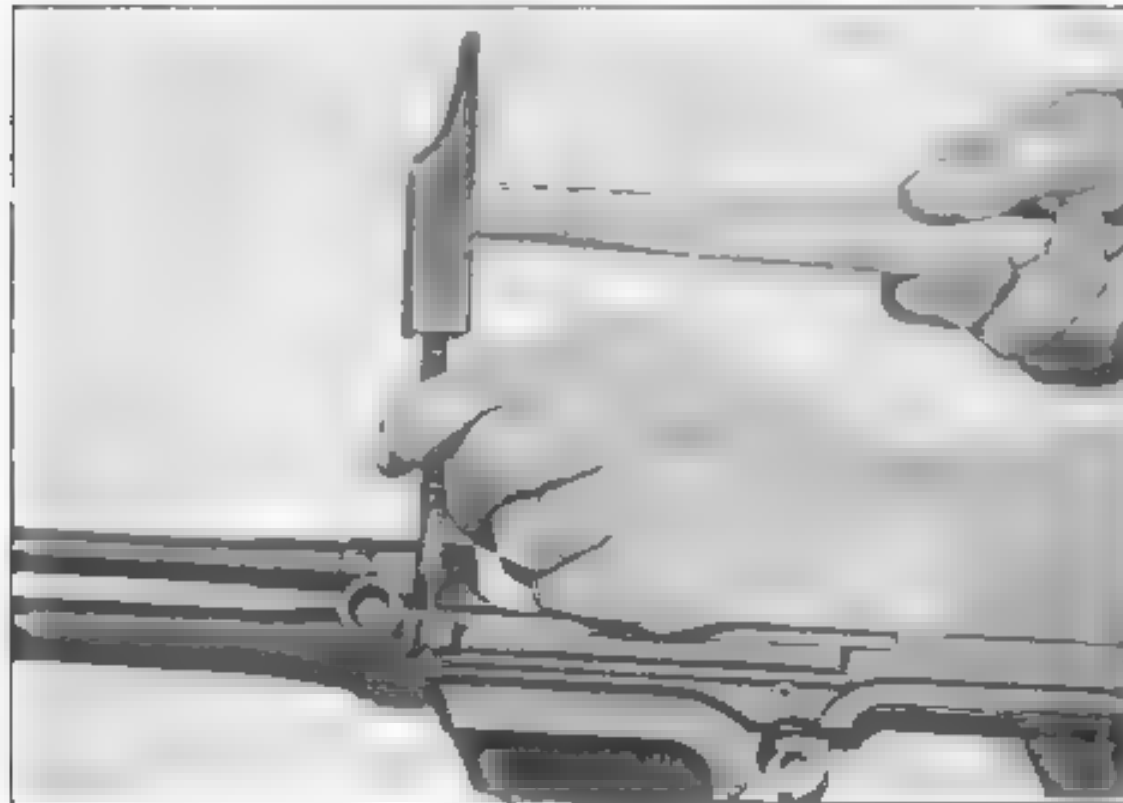
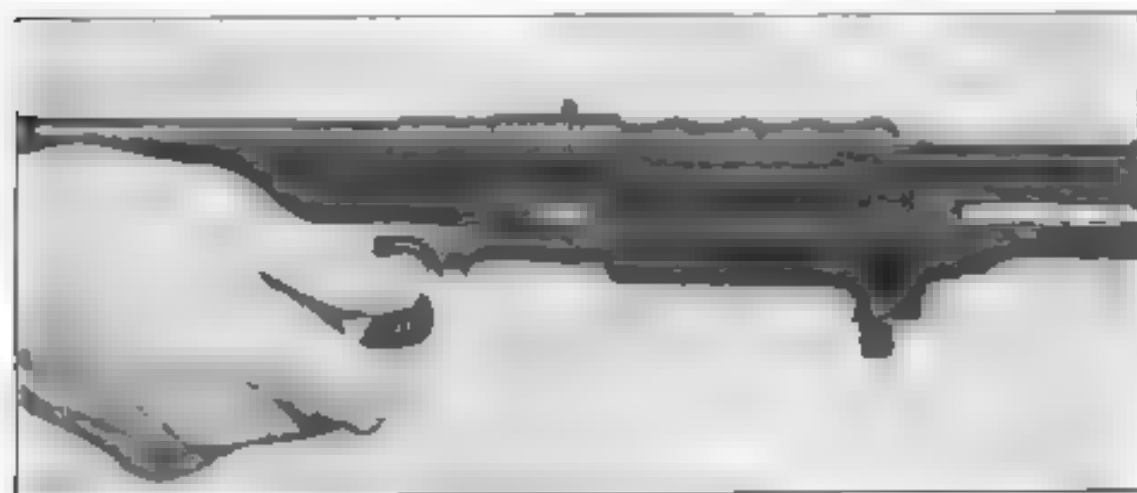

Fig. 74
Fig. 78
Using a pin drift, remove the lug retaining pin (fig. 74)
N.B. - If the handguard has already been stripped (group of operations 5 - after removing the cocking handle knob (fig. 74 and 75), it is only necessary to pull the handle forward to remove (fig. 78).